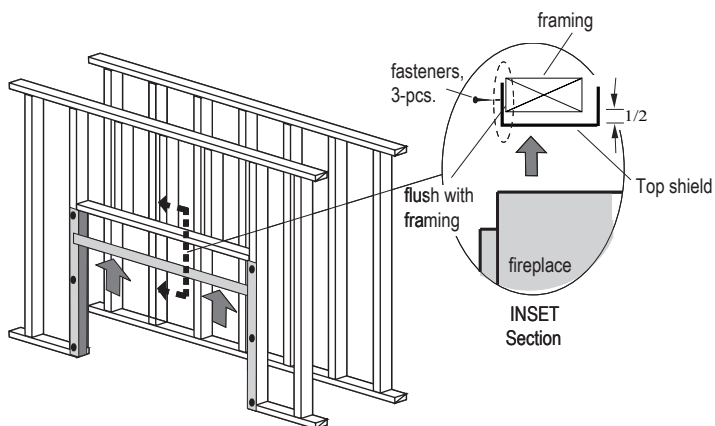

Figure 8a. Combustible Framing Top Heat Shield L52FS02x1, (one 1-pc).
**Step 2.** Next, fasten the Top shield (L52FS02x1), with the Wide flange face up, and the shallow flange toward inside of room, Figure 8a.